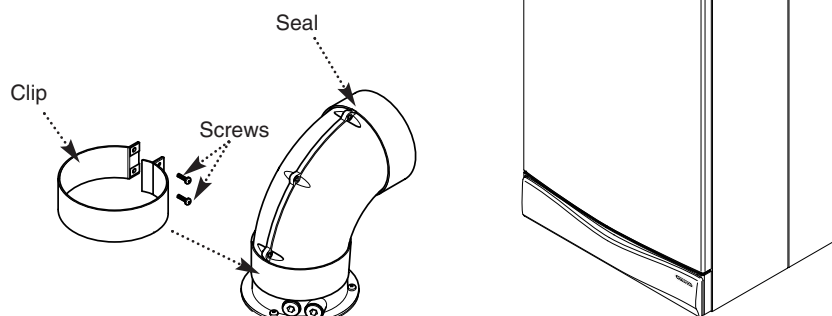

Fig. 23
9. Remove the screws from one of the clips provided. Prise the clip apart and fit it over the seal (Fig. 23). Set the elbow to the required angle.